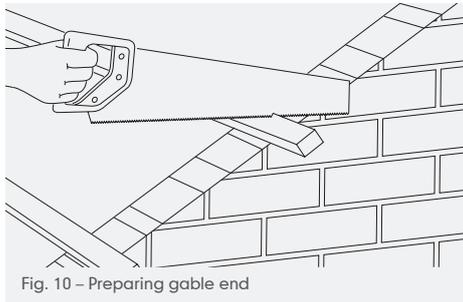

Fig. 10 – Preparing gable end
- 1 Ensure the gable end is level and free from projections. The roofing underlay and tiling battens should be laid across the cavity/gable ladder and the battens finished flush with the outer wall or outer edge of the bargeboard (Fig. 10). The verge extrusion is fitted prior to tiling.